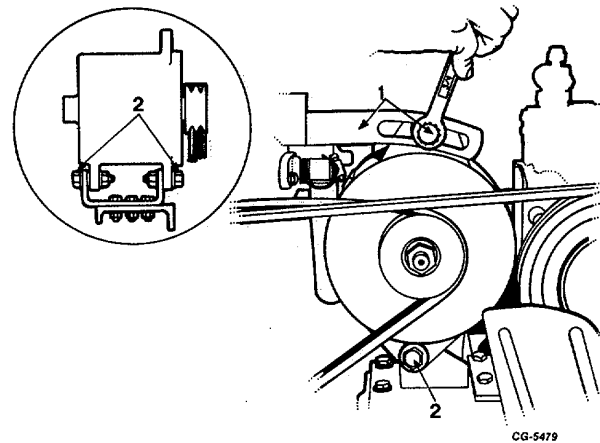

Fig. 14 Alternator Adjusting Bolt Location
2. Loosen the alternator adjusting strap bolt and two mounting bolts, push alternator towards air compressor to loosen alternator drive belts (Figure 14).